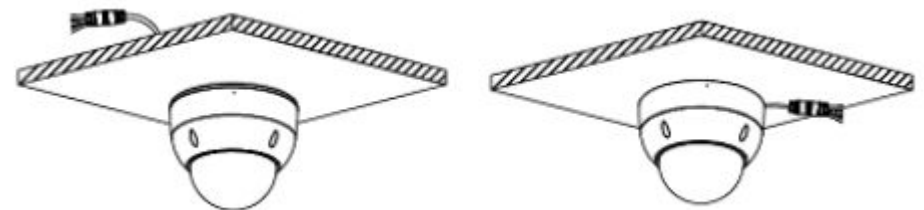

Figure 2-5
**Step 5** Reinstall the Dome to the camera body. Make sure all screws are securely fastened. You can also use side cable exit. You will need to remove the side exit cover. See Figure 2-5.